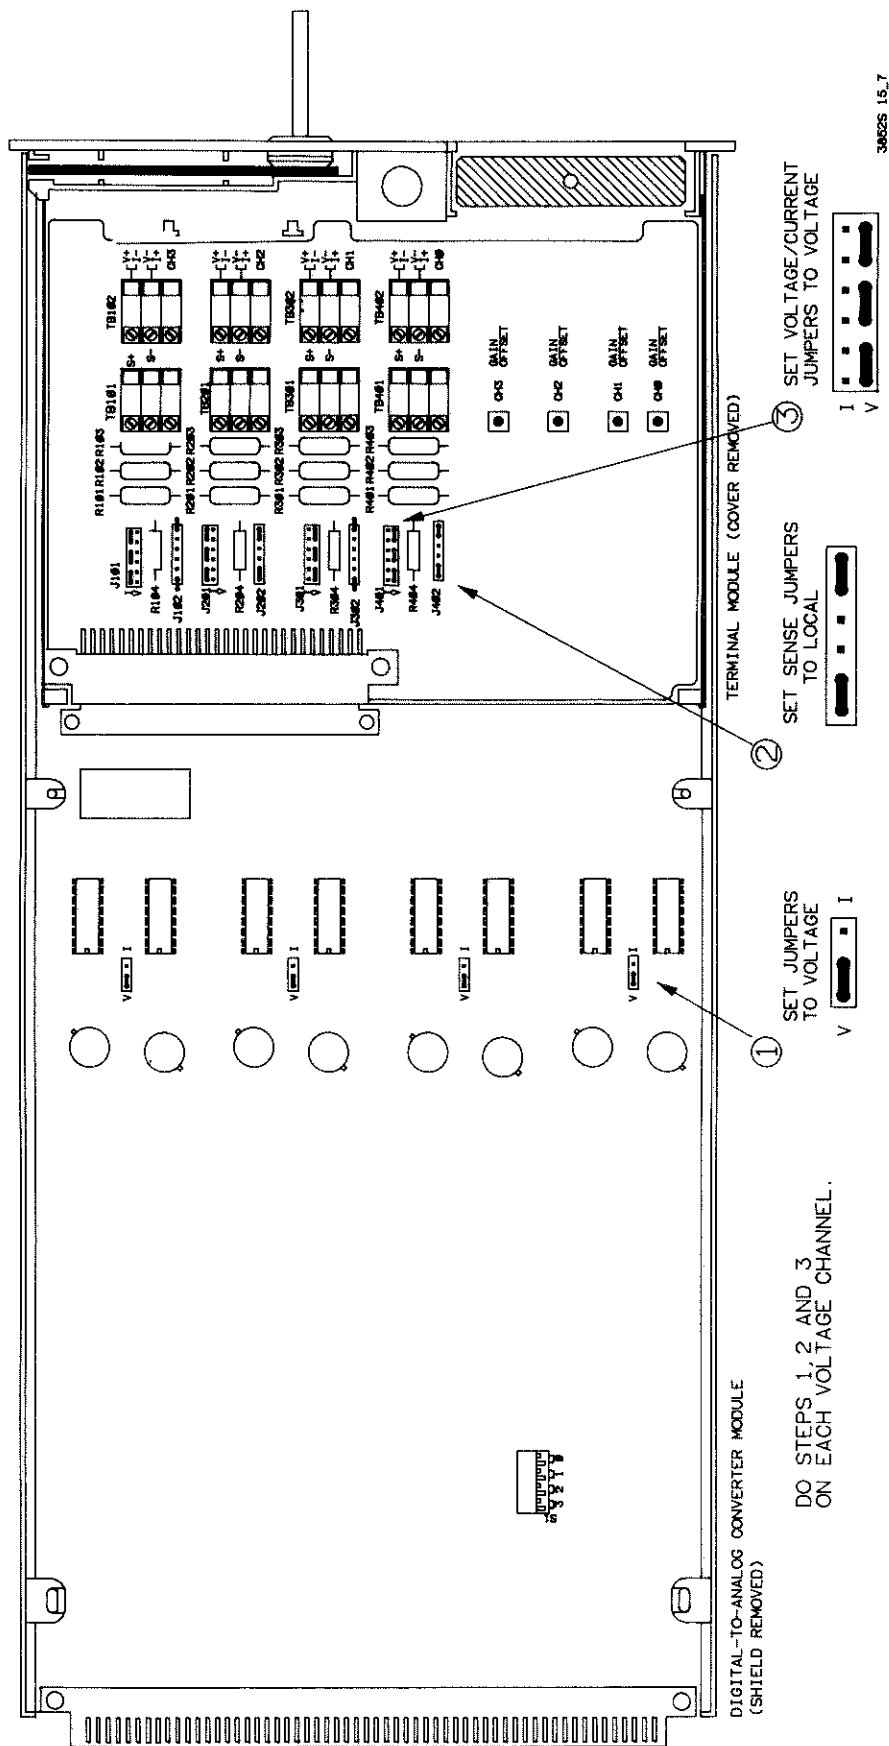

Figure 15-17 Voltage Calibration Configuration
1. To calibrate a channel in the voltage mode, the jumper and switch configurations must be as shown in Figure 15-17. Reconfigure the component module/terminal module jumpers and component module switch if necessary.